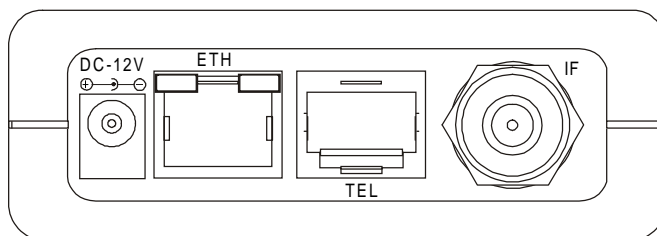

Figure 2-7. SU-NI Rear Panel (unit with voice support)
2. Connect the SU-PS DC power cord to the DC In jack (marked DC-12V) located on the rear panel of the Indoor unit (shown in Figure 2-7).
Note: The rear panel pictured above in Figure 2-7 is of a SU-NI with voice support; SU-NI units that belong to Subscriber Units without voice support (SU-1D, SU-8D, SU-BD) are identical, except that they have no TEL port.